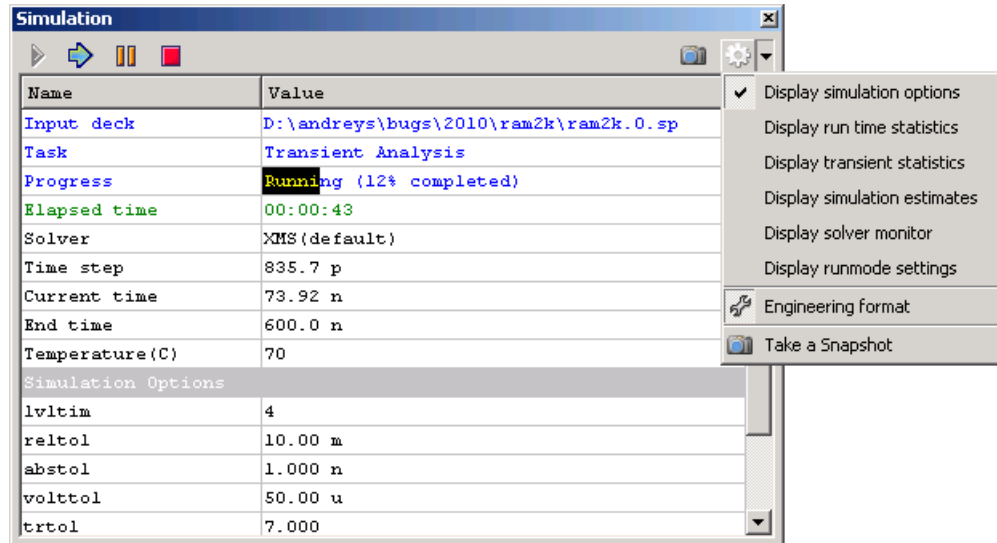

Figure 2-64 Run Time Screen
- **Options:** The drop-down menu contains a number of entries which will toggle the display of additional run-time sections if selected. These sections are shown below the primary statistics information in a view under the corresponding headers (see Figure 2-64). For details on a particular section description see Section 29.11 Run-time Statistics Display and Menu Options.